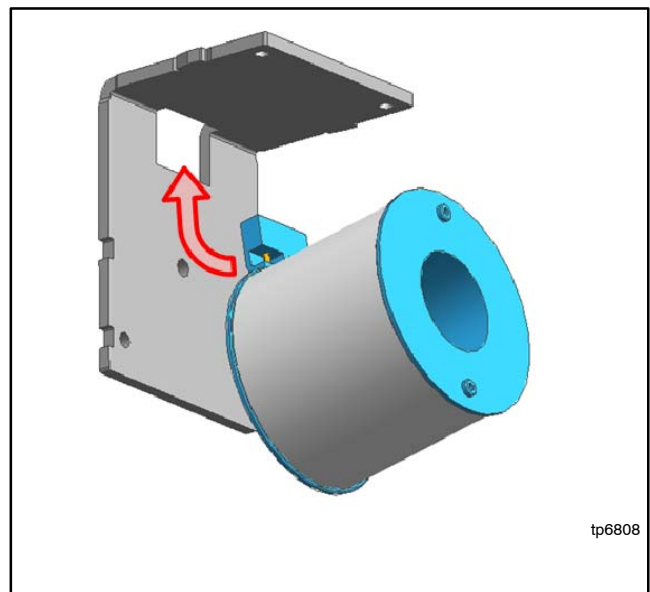

Figure 7-22 Coil Terminal In Steel Frame
1. Insert the terminal block section of the coil into the opening in the steel frame. See Figure 7-22.